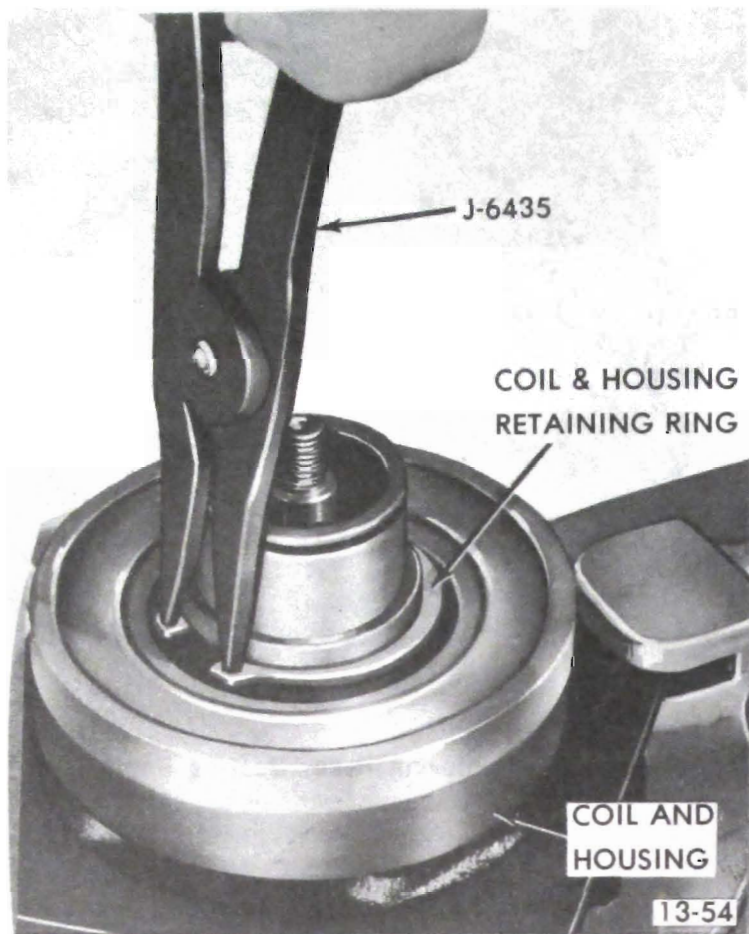

Figure 13-39 Removing or Installing Coil and Housing Retainer Ring
6. Mark position of coil and housing assembly in relationship to shell of compressor, remove coil and housing retainer ring (see Figure 13-39) using No. 26 truarc pliers (J-6435), and lift out coil and housing assembly.